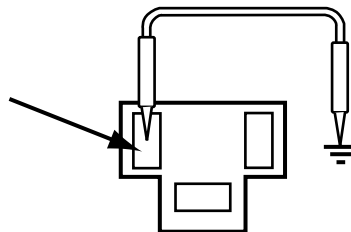

Figure 12-32 Terminal C on 1990–93 B-Series and MPV
1. Attach a jumper wire to Terminal C (yellow wire, Figure 12-32).